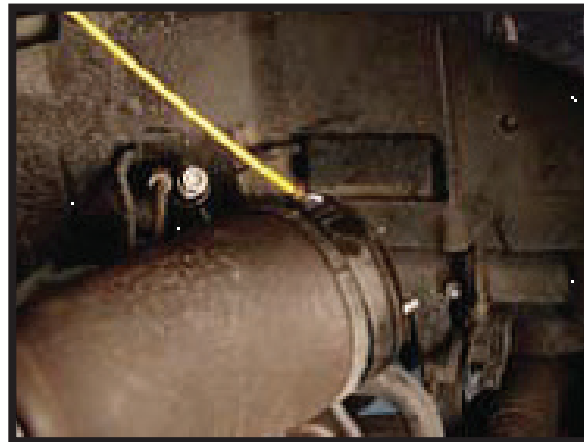

FIGURE 7
8. WITH THE AIR STRUT REMOVED YOU CAN NOW GAIN ACCESS TO ITS HOSE CONNECTION. SLOWLY REMOVE THE FITTING TO DEFLATE AND FREE THE ASSEMBLY. REMOVE THE AIR LINE FITTING FROM THE AIR HOSE AND DISCARD. (FIGURE 7)